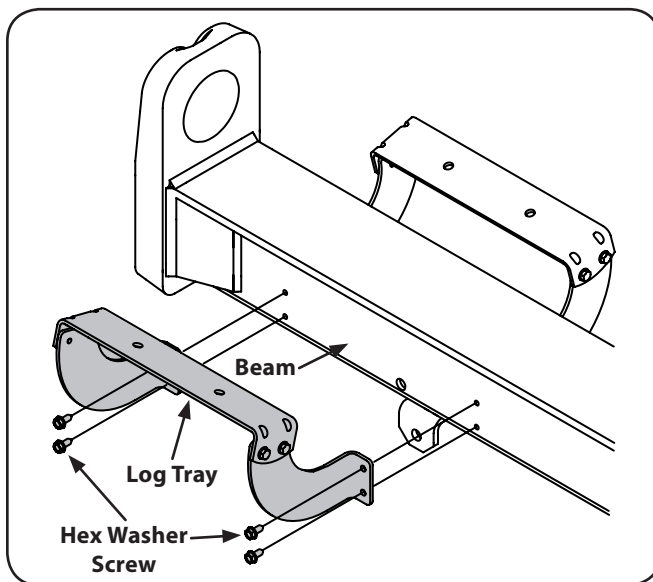

Figure 3-7
- Insert all six bolts loosely into threaded holes of the log tray and the beam for alignment and assembly purposes. See Figure 3-7.